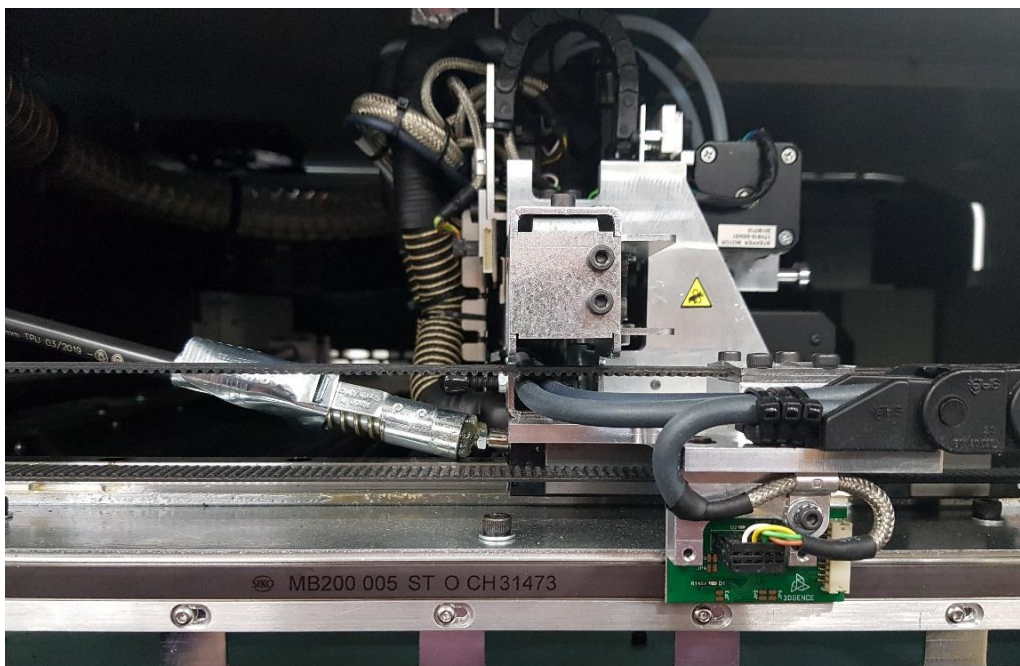
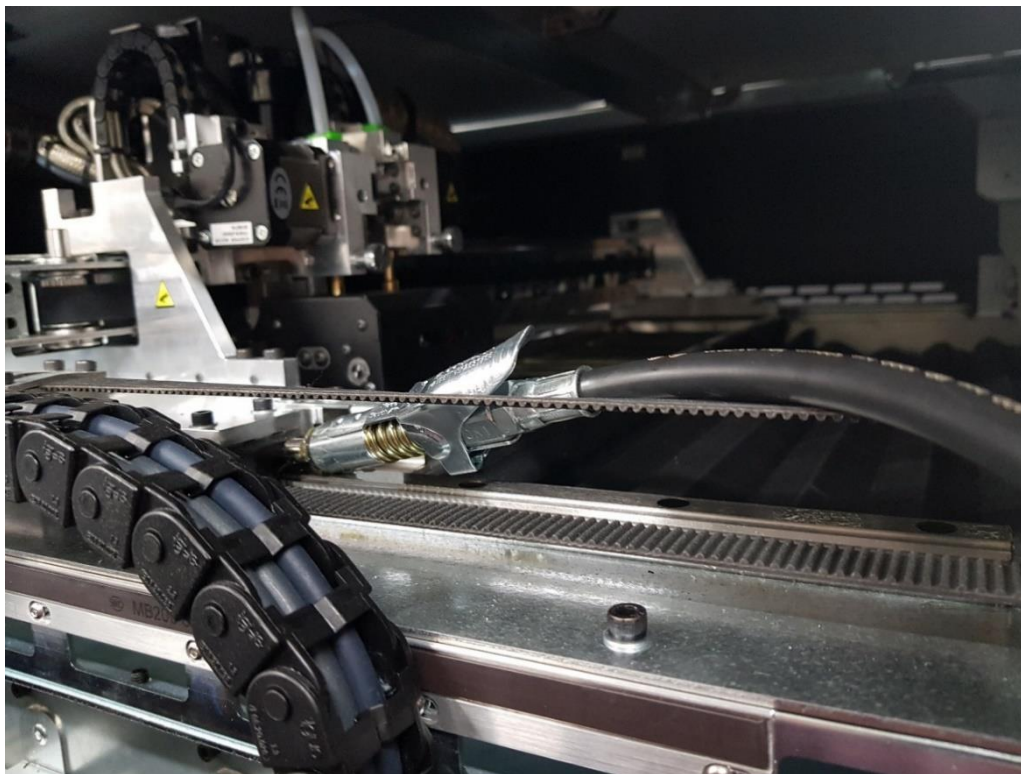

Fig. 106 Lubricate the grease nipples on the left side of the printer
Fig. 107 Lubricate the grease nipples on the left side of the printer
14. Press a small amount of grease into the grease nipple on the left and then the right side as in Fig. 106 and Fig. 107.